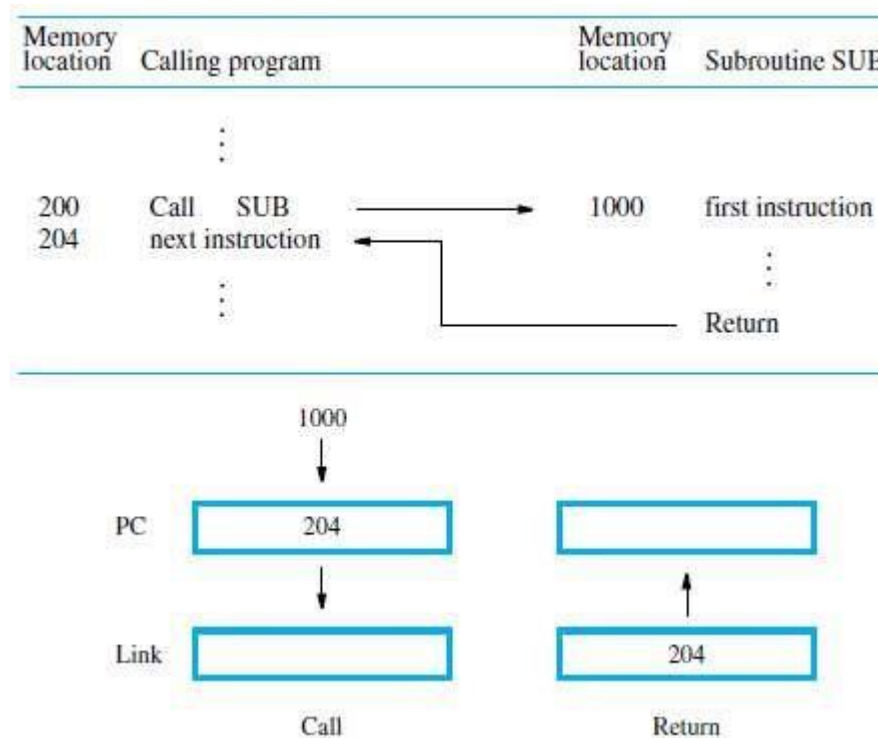

Figure 2.16 Subroutine linkage using a link register.
- A Call instruction causes a branch to the subroutine (Figure: 2.16).